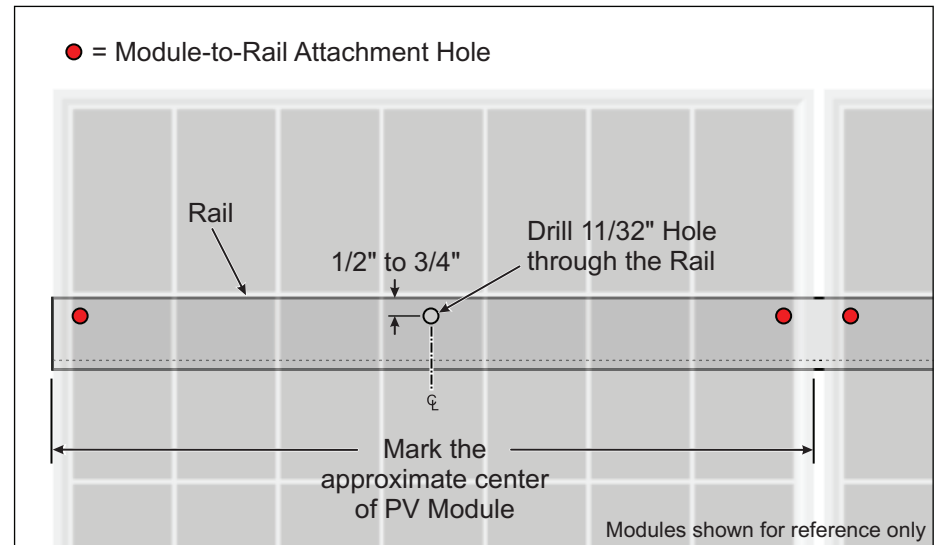

Figure 2: Measure, Mark, and Drill
- A. Mark and then drill a 11/32" hole through the Rail where the Inverter will be attached. (See Figure 2)